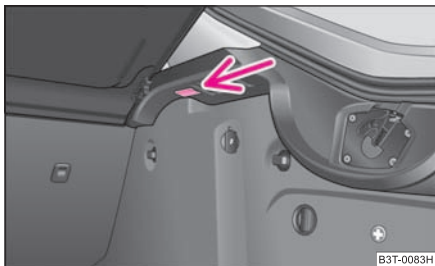

Fig. 227 Remove the luggage compartment light
- Insert a narrow screwdriver into the slot ⇒ fig. 227 and carefully take out the light.